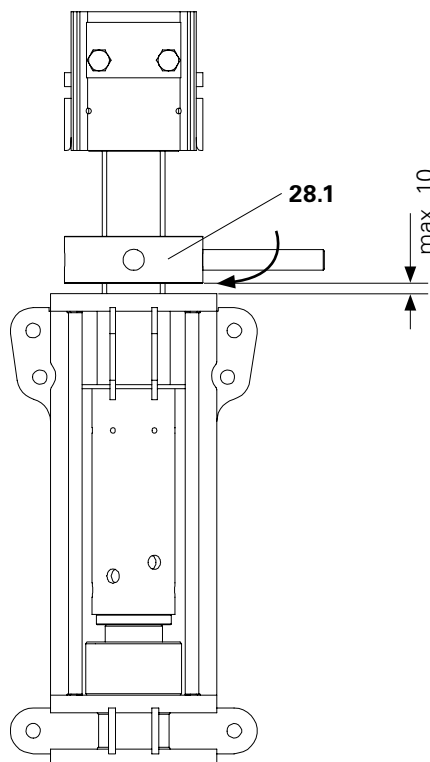
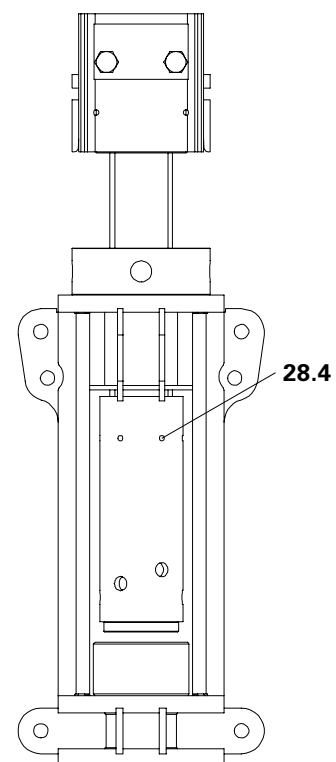

Fig. D1.07
Fig. D1.08
5. Insert the Mounting Shaft VST (29) into the spindle nut (28.1). (Fig. D1.07)
6. Turn the Mounting Shaft VST (29) in a clockwise direction until the spindle nut (28.1) rests on the head plate.
7. Lower the hydraulic cylinder (43.4). (Fig. D1.08)